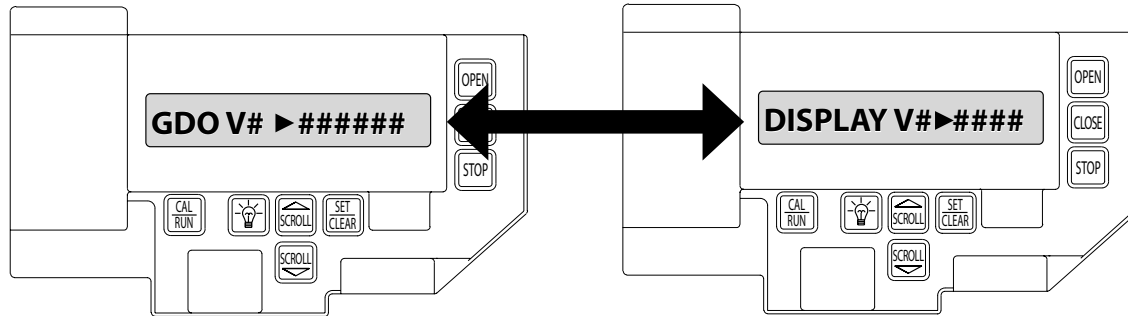

FIG. 8
2. Press SCROLL until display reads GDO V# > #####. FIG. 8.